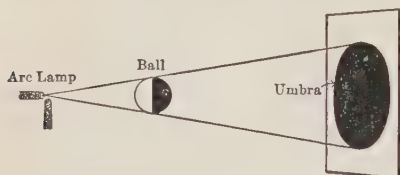

FIGURE 259.—Light from a "point source" casts a sharp shadow of uniform intensity, called an *umbra*.
*umbra*. An electric arc emits lights from a small area and hence casts an umbra (Figure 259). If the light comes from